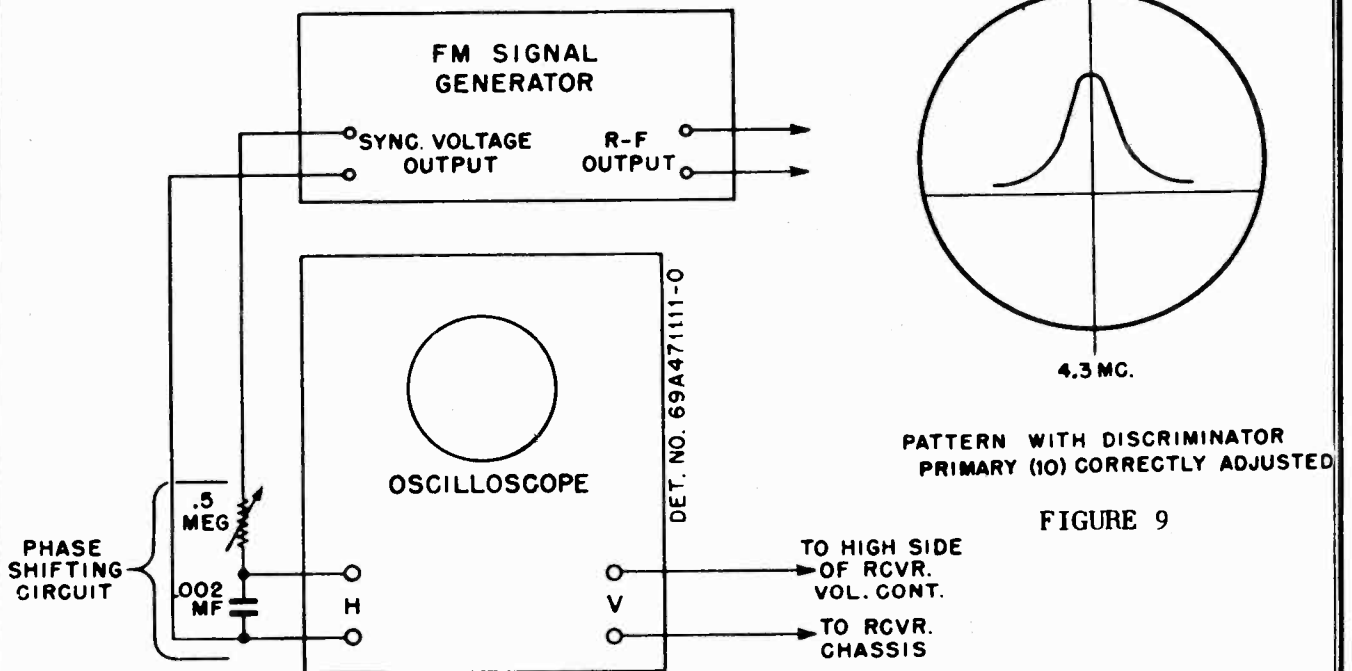
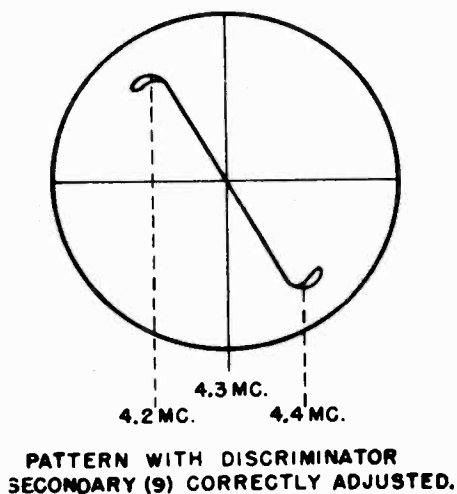

FIGURE 8. SIGNAL GENERATOR & OSCILLOSCOPE HOOK-UP
FIGURE 10
Location of the radio is important when it is operated on its built-in loop antenna. Moving the set even a few feet away from its present location may increase or reduce signal strength by more than 50% because a stronger signal may exist at one location than another. Therefore, in homes where reception is poor, you may be able to improve it by placing the set against another wall. The Motorola figure 8 loop antenna is omnidirectional.
4.	(A) Discriminator - <ol style="list-style-type: none"> <li>1. Connect the input terminals of the oscilloscope vertical amplifier to the high side of the receiver volume control and the chassis.</li> <li>2. Connect the FM generator synchronizing voltage output terminals to a phase shifting network, consisting of a variable 1/2 megohm resistor in series with a .002 mf capacitor. The input to the oscilloscope horizontal amplifier is connected across the .002 mf capacitor. See Figure 8. (This phase shifting network may not work with every oscilloscope. Different values of R &amp; C may be required.)</li> <li>3. Apply an FM 4.3 Mc signal (125 Kc deviation) through a .01 mf capacitor to the control grid (pin #4) of the 7W7 tube in the second IF amplifier stage.</li> <li>4. Screw discriminator secondary core (9) out as far as it will go.</li> <li>5. Adjust discriminator primary (10) until the pattern obtained on the scope is symmetrical about the vertical axis. The phase shifting network resistor is adjusted to give only one trace. The pattern obtained is the resonance curve of the primary, whose maximum response should be at exactly 4.3 Mc. (See Figure 9).</li> <li>6. Adjust discriminator secondary (9) until a symmetrical pattern is obtained, with peaks occurring at about 100 Kc above and below 4.3 Mc and is substantially linear between peaks. The trace should pass through the intersection of the vertical and horizontal axis. The phase shifting network should be adjusted to give only a single pattern at all times. (See Figure 10).</li> </ol>